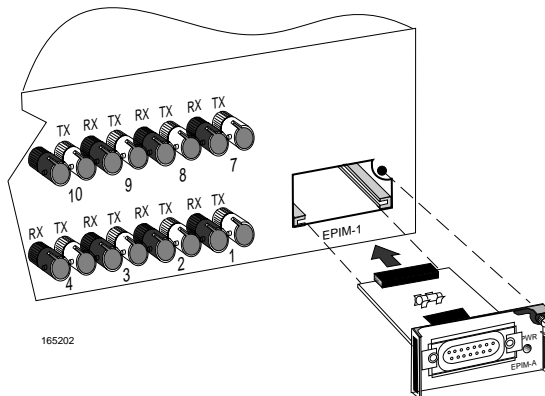

Figure 4-8 Installing an EPIM
2. Slide the new EPIM into place, making sure that the connectors on the rear of the EPIM align correctly and firmly with the connector inside the SEHI. See Figure 4-8.